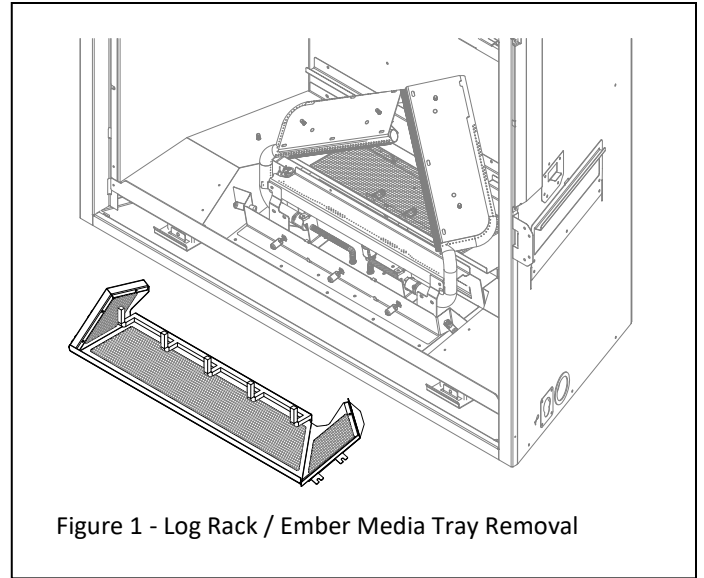

Figure 1 - Log Rack / Ember Media Tray Removal
1. Remove valance from fireplace. Remove and retain (4) screws from the log rack/ember media tray. See Figure 1.